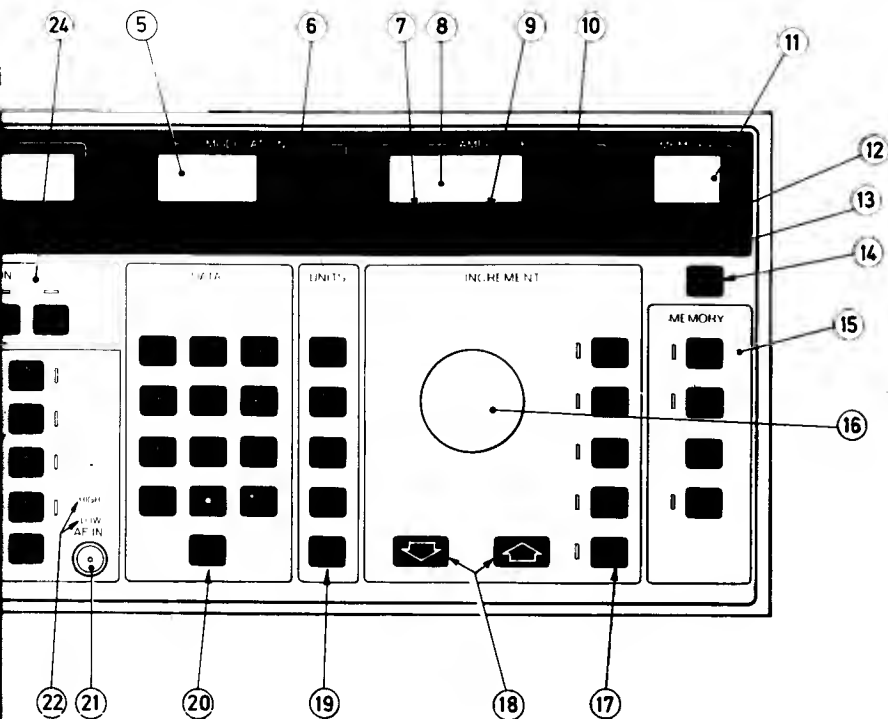
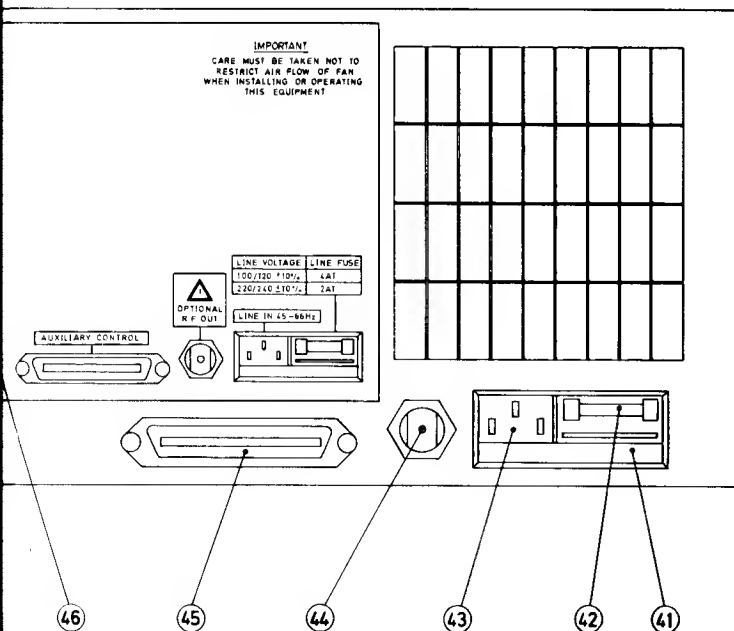

Fig. 4.1 Front Panel
Fig. 4.2 Rear Panel
4.2.1 Each group of controls or connectors described is numbered to correspond with the indicators on Fig. 4.1 (front panel) or Fig. 4.2 (rear panel). With the exception of the LINE switch, the front-panel keys are of the pressure-sensitive membrane-type. The numeric indicators are of the LED dot-matrix type.